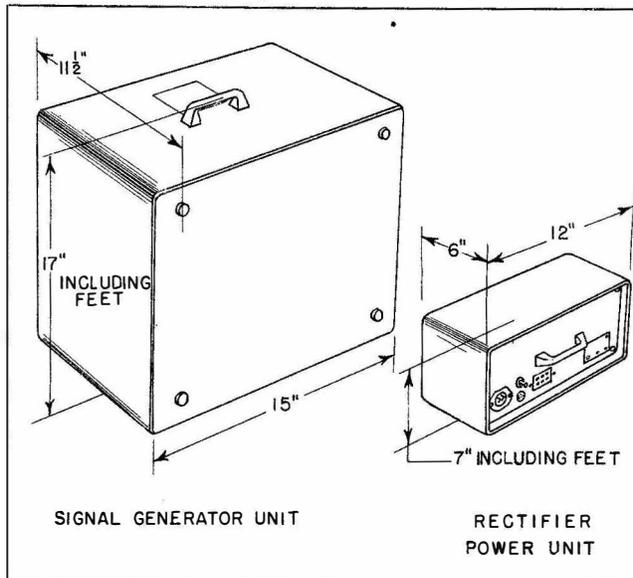

Figure 2-1—Dimensions of the Unpacked LP-5 Radio Frequency Signal Generator Equipment
f. Dimensions of each major unit of the equipment when unpacked are given in Figure 2-1.